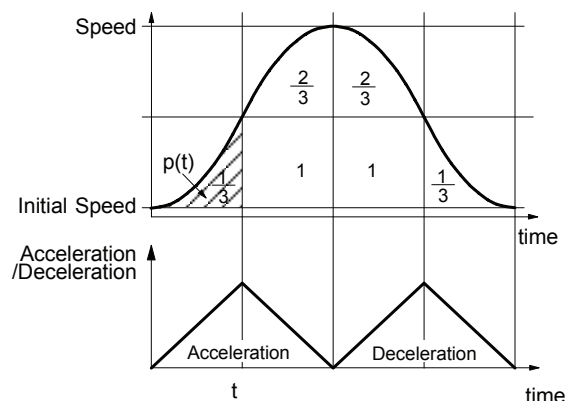

Fig. 2.13 The rule of 1/12 of Parabolic Acceleration/Deceleration
This IC creates an S curve by increasing/reducing acceleration/decelerations in a primary line at acceleration and deceleration of drive speed. Figure 2.13 shows the operation of S-curve acceleration/deceleration. When driving starts, the acceleration increases on a straight line at the specified jerk (K). In this case, the speed data forms a secondary parabolic curve (section a). When acceleration reaches designation value (A), acceleration is maintained. In this case, the speed data forms an increase on a straight line (section b). If the difference between the specified drive speed (V) and the current speed becomes less than the speed that was utilized at the increase of acceleration, the acceleration starts to decrease towards 0. The decrease ratio is the same as the increase ratio and the acceleration decreases in a linear form of the specified jerk (K). In this case, the speed data forms a secondary parabolic curve (section c). Thus, the case that acceleration has a constant part in its acceleration, this book calls it The Partial S curve Acceleration. On the other hand, if the difference between the specified drive speed (V) and the current speed becomes less than the speed that was utilized at the increase of acceleration before acceleration reaches designation value (A), section shifts from a to c without b section. Thus, the case that acceleration does not have a constant part in its acceleration, it calls The Perfect S curve Acceleration.